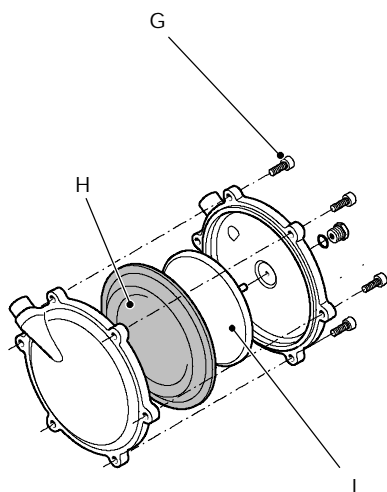

fig. 27
- 4 Unscrew the six screws *G*, open the hydraulic actuator and remove the membrane *H*. (fig. 27).
Assembling the part, ensure to place the concave side of the membrane towards the actuator plate *I* (fig. 27).